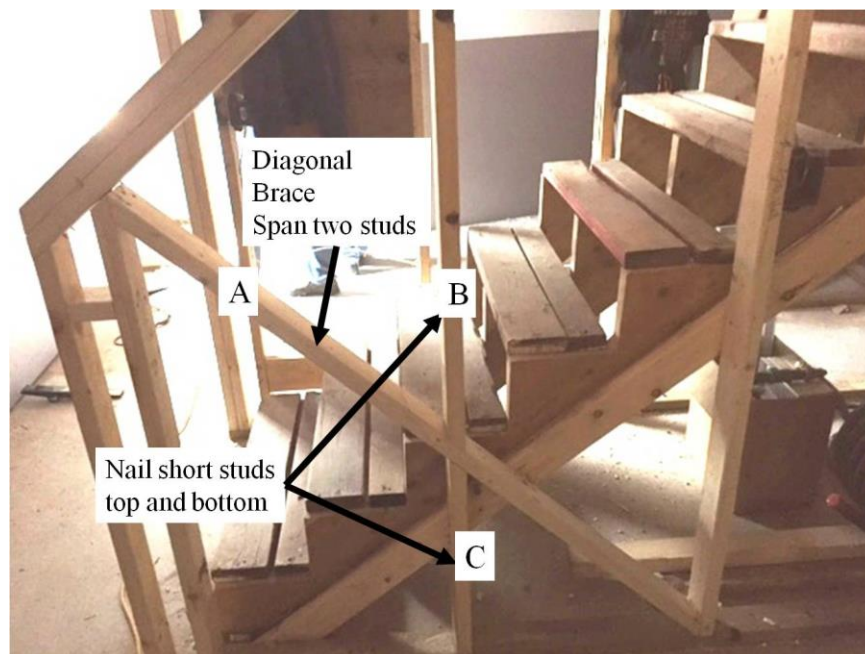

Figure 6-7. Stairway Wall Bracing.
7. To stiffen the wall, cut and nail an angled 2x4 brace between the bottom of the uncut stud and the top of the next cut stud, through the space where the stud was removed earlier (see “A” in Figure 6-7 above).
10. Measure and cut, at the same angle, two 2x4s to fit above and below the angled brace as shown in Figure 6-7, “B” and “C”, respectively. Toenail the lower (“C”) to the bottom plate and through the diagonal brace into the top. Nail the upper (“B”) through the upper plate into the top end and then through the diagonal brace into the lower end. Use two 3¼” Paslode nails at each location.